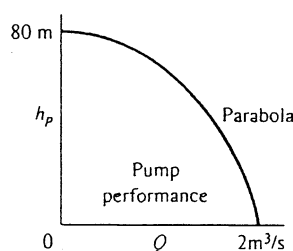

Fig. P6.80
6.80 The head-versus-flow-rate characteristics of a centrifugal pump are shown in Fig. P6.80. If this pump drives water at 20°C through 120 m of 30-cm-diameter cast-iron pipe, what will be the resulting flow rate, in m^3/s ?
6.81 The pump in Fig. P6.80 is used to deliver gasoline at 20°C through 350 m of 30-cm-diameter galvanized iron pipe. Estimate the resulting flow rate, in m³/s. (Note that the pump head is now in meters of gasoline.)